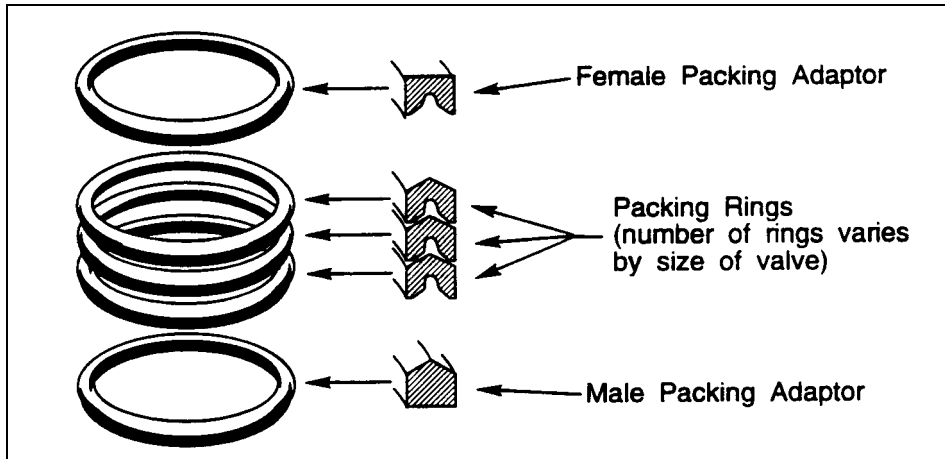

Figure 3 — Correct Packing Installation Sequence
8. For valves with low friction packing, lubricate the new packing, then install it one ring at a time in the sequence shown in Figure 3.
7. For valves with low friction packing, lubricate the new packing, then install it one ring at a time. See Figure 3.